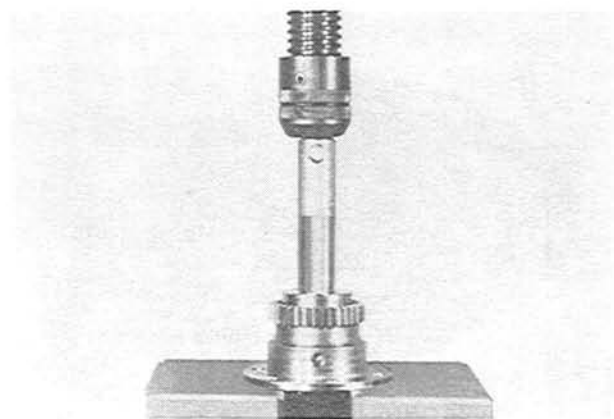

Fig. 1-34 Removing main bearing
4. Remove the adapter from the **main bearing puller and installer** (49 0813 235) and use it to extract the main bearing as shown in Fig. 1-34.